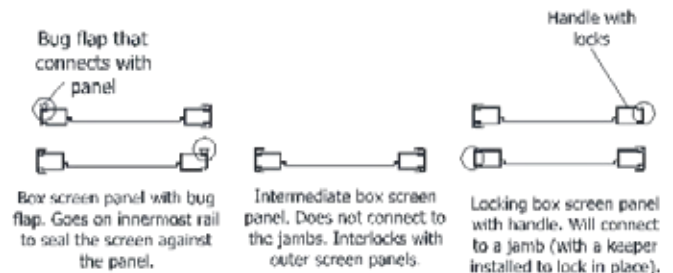

Figure 25
5. **Box screen panels** have different components based on configuration. Identify correct screen panel placement using Figure 25.